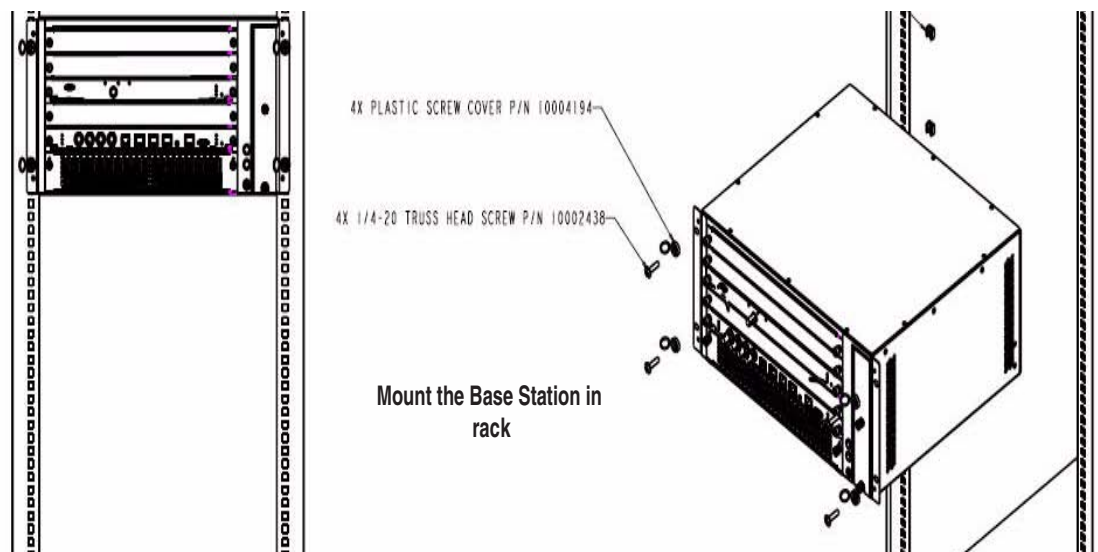

Figure 3-1 Package Contents
- A. Inspect Package Contents, as displayed in *Figure 3-1*.